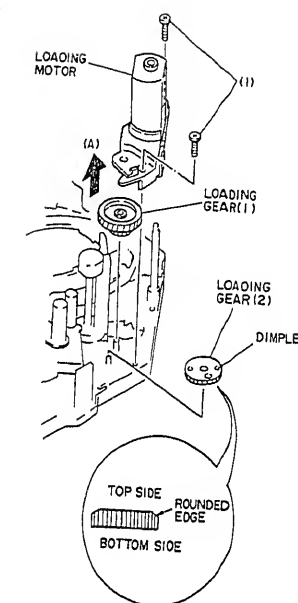

Fig. 2-3
2-3. Loading motor, loading gears (1)(2) (Fig. 2-3)
- 1) Remove two screws (1) holding the loading motor.
- 2) Remove the loading motor and loading gears (1) and (2) from chassis in the direction of arrow (A).